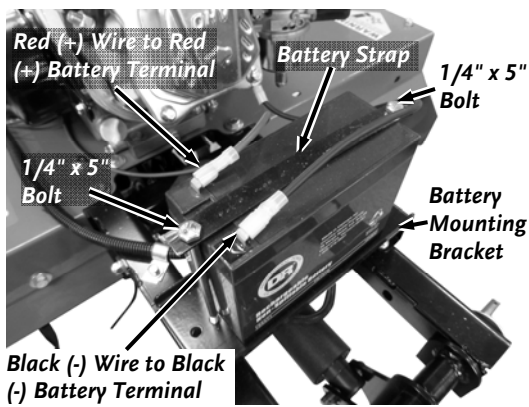

Figure 3
1. Place the Battery Strap across the top of the Battery (**Figure 3**).